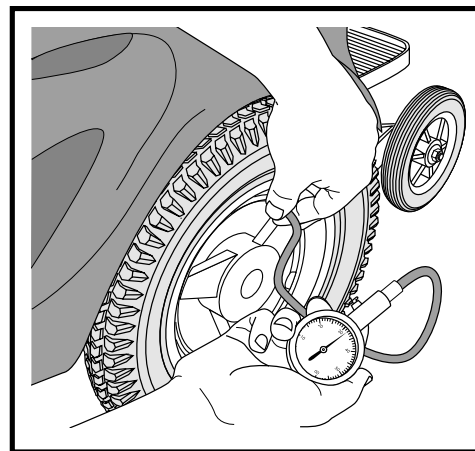

Figure 39. Check Tire Pressure
- Make sure the drive tires are inflated to **35 psi**. See figure 39.